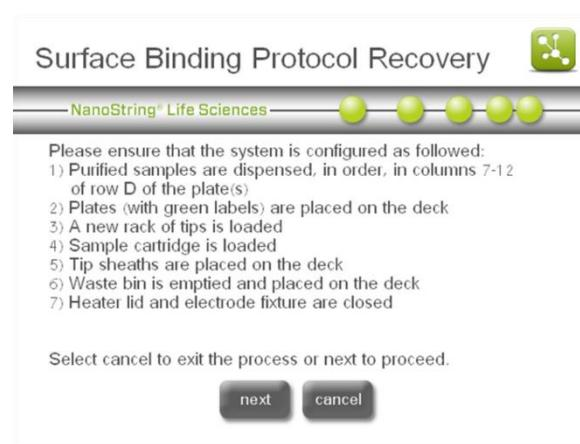

Figure 131: The ‘Surface Binding Protocol Recovery’ instructions.
2. Instructions will appear on the next screen (**Figure 131**). Follow the instructions on the touchscreen to configure the system for the surface binding protocol.